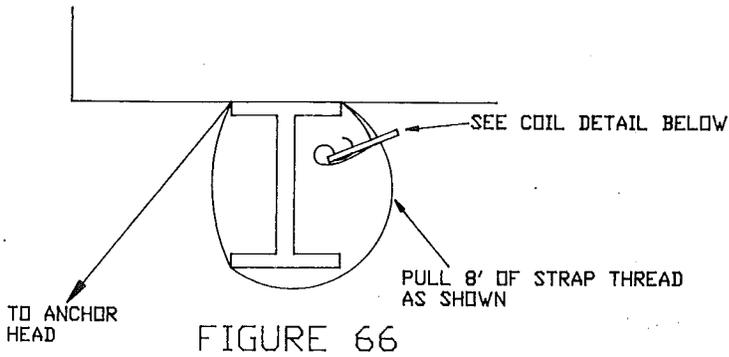

FIGURE 66
6. Connect the diagonal ties to the frame (I-beam) and the ground anchors. See Figures 66, 67, and 68.
Units being placed in Wind Zone II will require additional diagonal frame ties at each end of each longitudinal I-beam of each floor section. The ties will be located at the first interior cross member/outrigger location on the frame. The strap will loop the I-beam, as shown in Figure 66, on the side of the crossmember/outrigger away from the end of the I-beam and connect to a ground anchor. See Figure 83. Please note that the ground anchor is located under the I-beam being anchored.